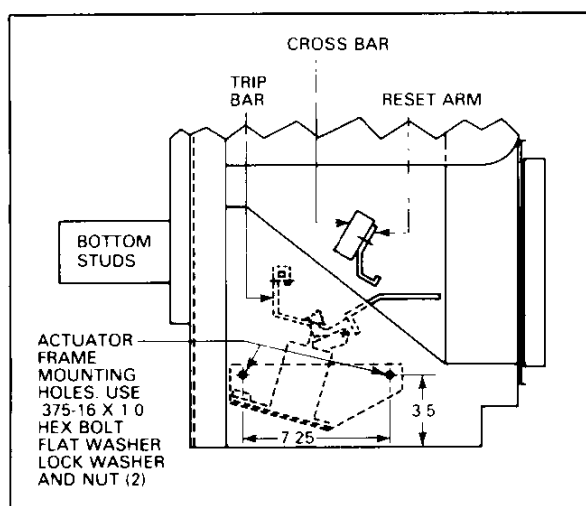

Fig. 7 Left Side View
3. Locate the two (2) .50 holes on the left side of the breaker frame, see Fig. 7. Attach the actuator base to the left side using .375-16 x 1.0 hex bolt, lockwasher, flat washer and nut. The two (2) actuator leads should be located between the left inside frame and the actuator housing.
4. Move the trip paddle assembly so that the paddle is located under the left side of the flange nut (viewing from the front) and secure the trip assembly to the bar, see Fig. 7.
5. Viewing the breaker from the front, remove the .375-16 x 1.5 hex bolt located on the far left side of the cross bar. Place the reset arm between the bolt head and lockwasher (Fig. 7), tighten the bolt being positive that the locking clip is in its previous position.